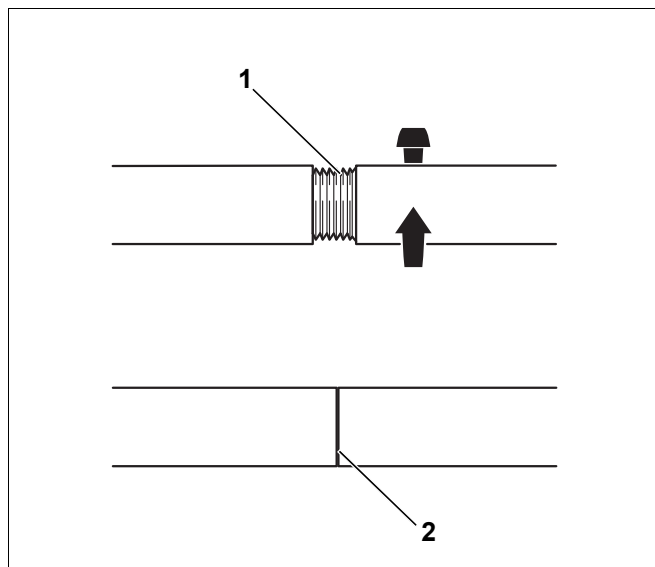

Fig. 20 Boiler compression tool size 2.3
- Before every use of the pull rods, check and, if necessary, tighten them. The pull rod is correctly positioned if it is fully inserted and no thread is showing (Fig. 20, [2]).
- Keep the thread (Fig. 20, [1]) clean. Contaminated threads can damage the compression tool during tightening.